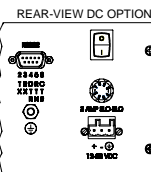

Figure 15: Model GF868 Rock Mount Enclosure - Wiring Diagram
- a. Purchase or prepare a suitable serial cable. This cable should have a standard female DB9 connector, wired as shown in Figure 15 on page 56, for connection to the rear panel of the Model GF868. The other end should be as required for the external device.
5. Wire any installed *option cards* using the same procedures described in Chapter 1, *Installation*, of this manual and the pin # assignments shown in Figure 15 on page 56.